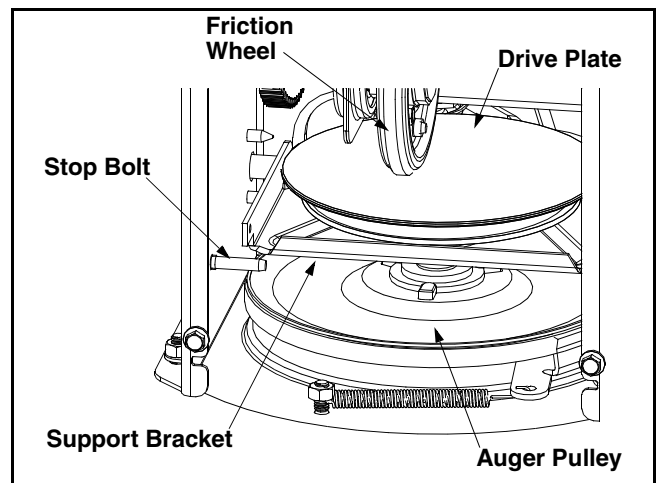

Figure 17
- Back out the stop bolt until the support bracket rests on the auger pulley. See Figure 17.